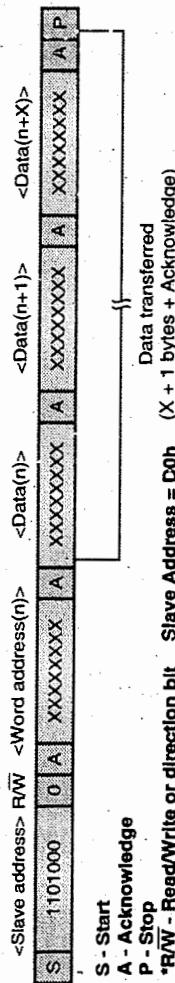

Fig. 14.9.2: Data Write – Slave Receiver Mode
- Fig 14.9.2 shows how the START and STOP conditions are recognized as the beginning and end of a serial transfer.